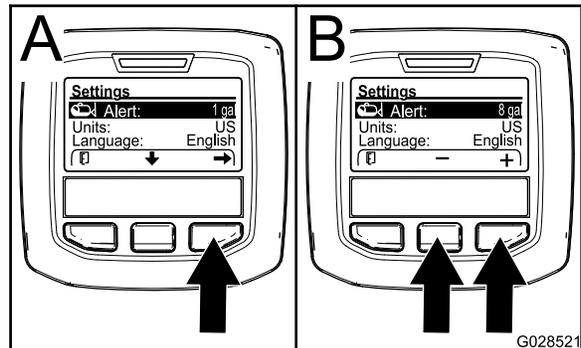

Figure 8
1. Press the center selection button to highlight the Alert setting (Figure 8).
2. Press the right selection button (Figure 8).
3. Use the center or right selection buttons to enter the minimum quantity in the tank when the alert displays during sprayer operation (Figure 8).